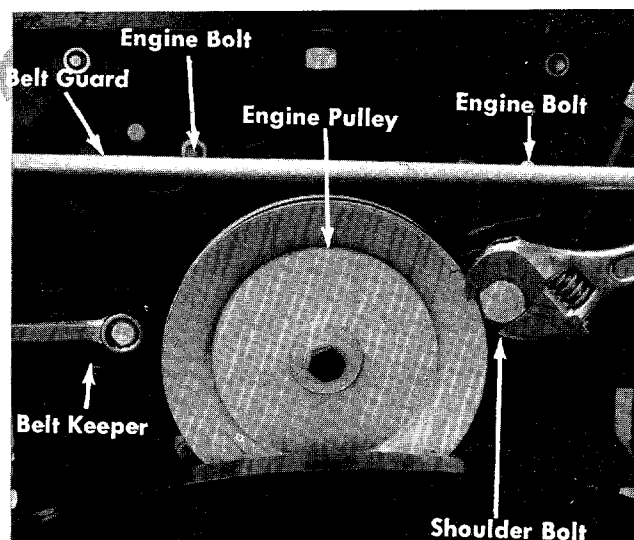

FIGURE 22. ENGINE PULLEY
- Step 2. Remove the belt keeper and shoulder bolt next to the engine pulley. See figure 22.
9. Removing the transmission belt. See figures 22 and 23.
- a. Remove the entire belt guard from the engine pulley by removing the two front engine bolts. See figures 22 and 23.